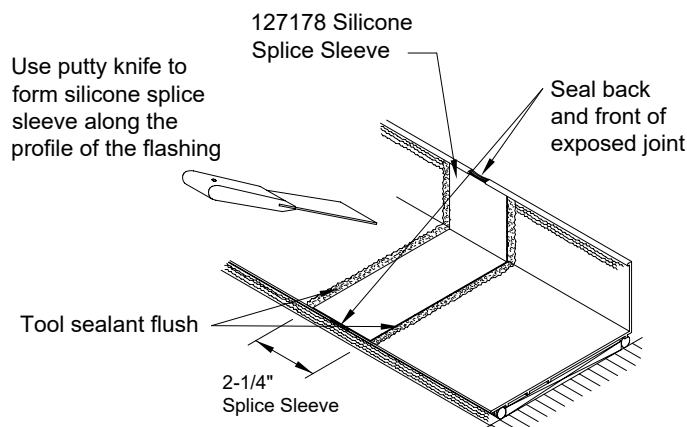

FIGURE 2
6. Center the Splice Sleeve over the joint. Then, using a putty knife, form the Splice Sleeve along the profile of the flashing. (Figure 2)
7. Silicone will squeeze out from under the Splice Sleeve. Use putty knife to tool excess silicone over edges of Splice Sleeve. (Figure 2)
8. Seal back and front of exposed joint. Be sure to force sealant up under the Splice Sleeve in front. (Figure 2)